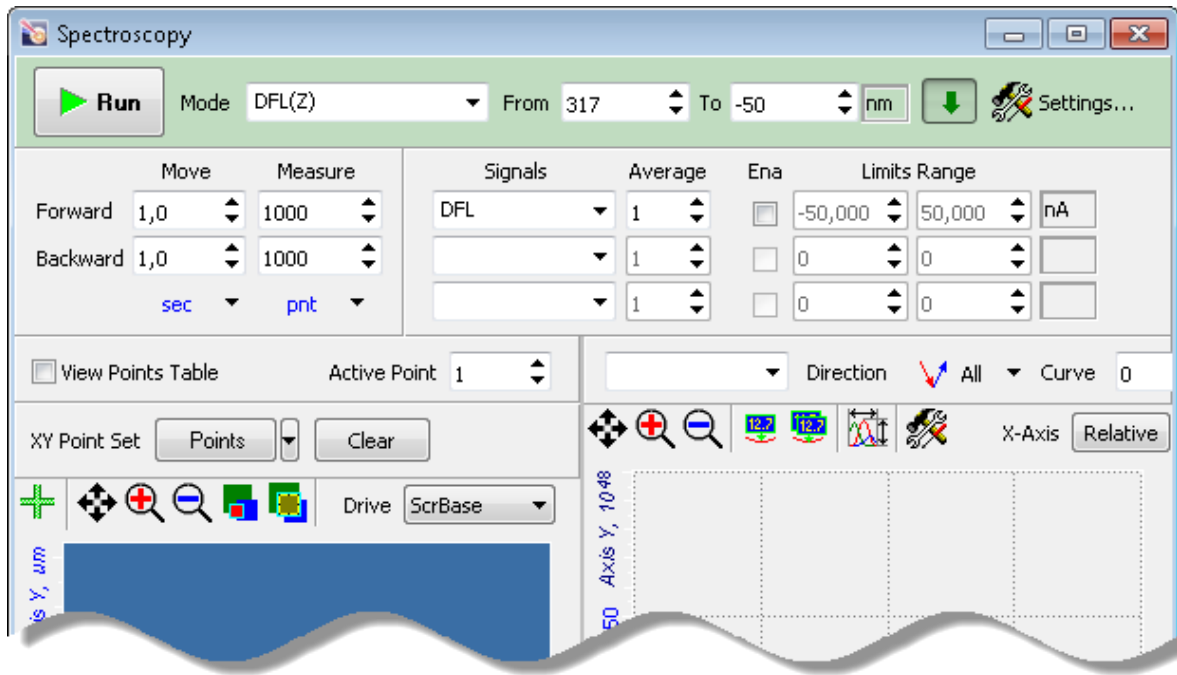

Fig. 12-8. **Spectroscopy** window
3. Open the **Spectroscopy** window by clicking the  button in the Main Operations panel (Fig. 12-8).